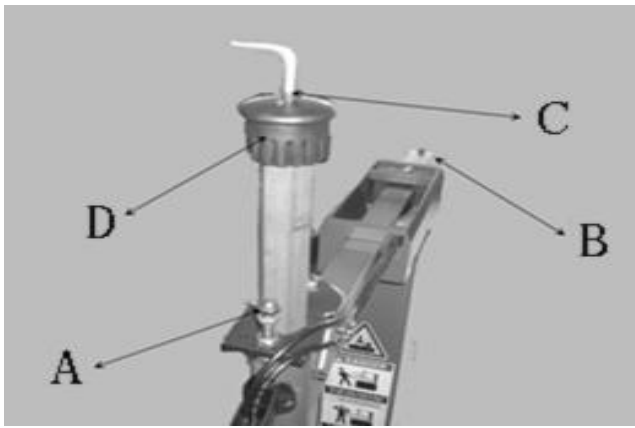
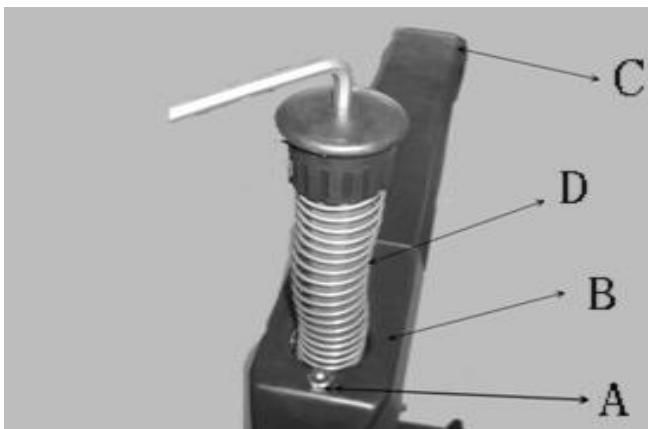

Fig 4-8
Fig 4-9
2.11 Mount the horizontal arm protective cover and detach the cap nut in the front (Fig4-8 A) and the protective cover fix screw at the back (Fig4-8 B) and fix screw (Fig4-8 C) on the vertical shaft cap (Fig4-8 D) and take out the vertical shaft cap.
4.2.12 Remove the package of the protective cover. Mount the vertical shaft spring (Fig4-9 D), vertical shaft cap and fix screw (Fig4-8 D), (Fig4-8 C) and fix.